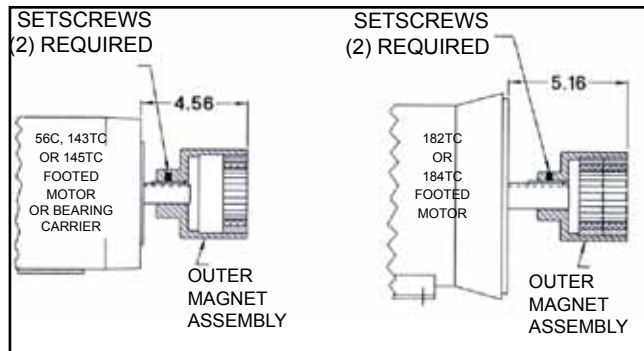
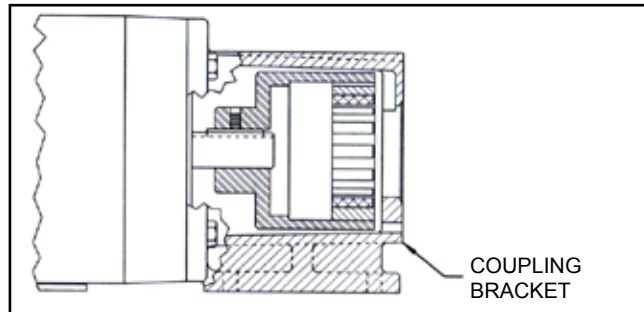

FIGURE 27
FIGURE 28
1. Inspect the magnets for any steel objects, which may be attached. Remove any foreign material. Apply Loctite and tighten the setscrews onto the motor or bearing carrier key and shaft. Locate outer magnet assembly on the motor shaft per dimension. **See Figure 27.**
2. Mount the coupling bracket to the motor (or bearing carrier) and secure with the 4 capscrews. **See Figure 28.** Reach in and rotate the magnets by hand to make sure there is no interference. If rubbing occurs check dimension in **Figure 27** or contact the factory.